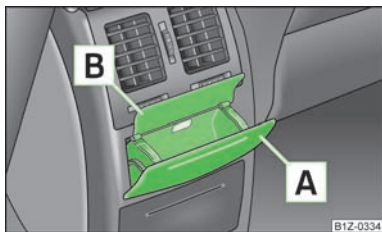

Fig. 66
- Press on the top part of the cover of the ashtray in area [A] » Fig. 66.
- Grasp the ash tray insert at the cover [B] » Fig. 66 and remove.